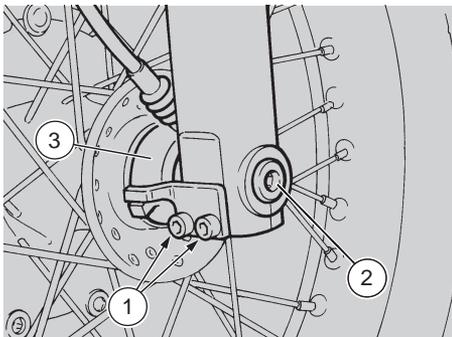

Fig. 30
FRONT WHEEL (Fig. 30)
- ◆ Loosen the two screws of the fork clamps (1-Fig. 30).
- ◆ Loosen the wheel pin (2-Fig. 30).
- ◆ Remove the speedometer control (3-Fig. 30) and the spacing bushing positioned on the left side of the wheel.
- ◆ Position the spacing bush (left side of the wheel) and the speedometer control (3-Fig. 30).
- ◆ Grease the pin (2-Fig. 30) only on the area introduced in the wheel; then insert it, lifting the wheel.
- ◆ Tighten the two screws of the fork clamps (1-Fig. 30).
- ◆ Tighten the pin (2-Fig. 30).